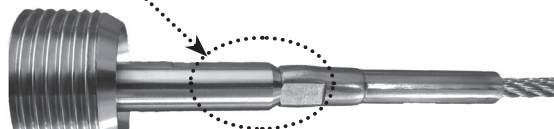
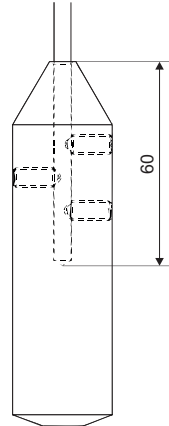

Fig. 30: The threaded connection of the electrode holder with the rope electrode
Fig. 31: Scheme of the weight for the rope electrode
1. Create your own electrode as shown on Fig. 31 The length of the electrode must be about 7 mm shorter than the dimension "E" in figure 30. The material of the electrode is recommended to be used stainless steel type 1.4404 (AISI 316 L) or similar depending on the application.
1. Heat the junction place (threaded connection) of the electrode and the electrode holder (see Fig. 31 and 33) using a heat gun at about 120-150 ° C (or 220-250 ° C for high temperature version).